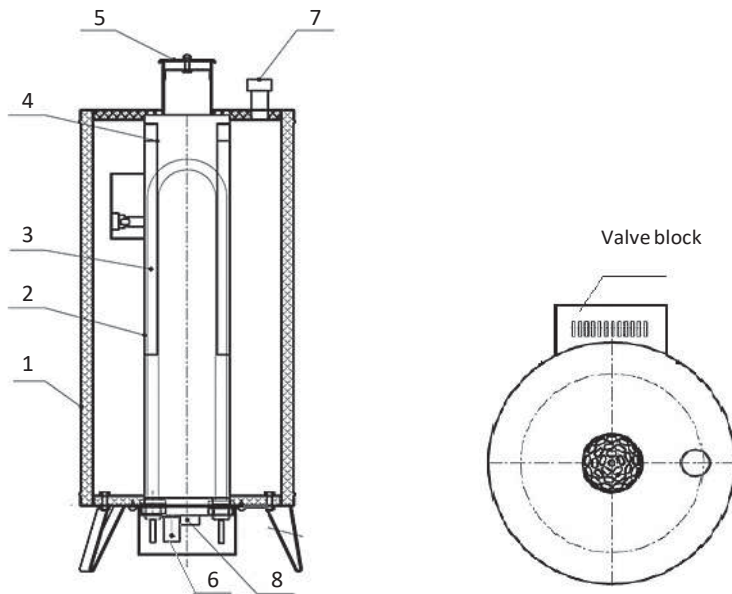

Fig. 1 Autonomous EGPP 2.25 kW
1.4.1 The structure of the autonomous electric generator of superheated steam AEGPP is shown in Fig. 1, 2. A box-section channel (pos. 2, fig. 1, 2) passes through the thermally insulated water tank (pos. 1, fig. 1, 2), in which tubular electric heaters are installed (pos. 3, fig. 1, 2). Water is heated to a boiling state due to the transfer of heat through the walls of the channel from the tubular electric heaters to the water. Inside the channel there are steam ducts (pos. 4, figs. 1, 2), through which steam is supplied to the lower part of the channel, where it mixes with the air entering the channel from below. Due to convective flows, the vapor-air mixture rushes upwards, heating up to a temperature of 300-330C and is discharged into the room through the nozzle (pos. 5, Fig. 1, 2). Filling the container with water is carried out through a hose (pos. 6, fig. 1, 2). The autonomous electric generator of superheated steam AEGPP is connected to the electrical network through a terminal block (pos. 8, fig. 1, 2).
1.4.3 The Device shall be supplied with water from the external water supply system through a filling hose (pos. 6, Fig. 1, 2) located on the rear wall of the Device under a removable casing. Water drainage is carried out through a plug fitting located in the same place.